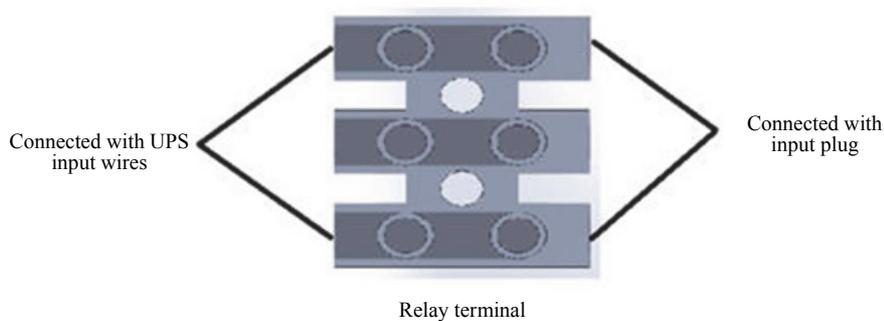
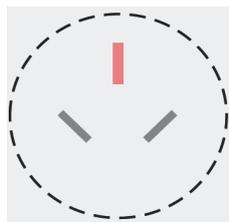

Fig. 10-5 UPS Input Wire and Plug Connection
Fig. 10-6 UPS Input Plug Type
- Connect UPS and supply mains power. Connect the brown wire and the blue wire of UPS input wires through the relay terminal as shown in figure 10-5 to the input plug, and then insert supply mains. Wall socket type for input power is shown as figure 10-6.